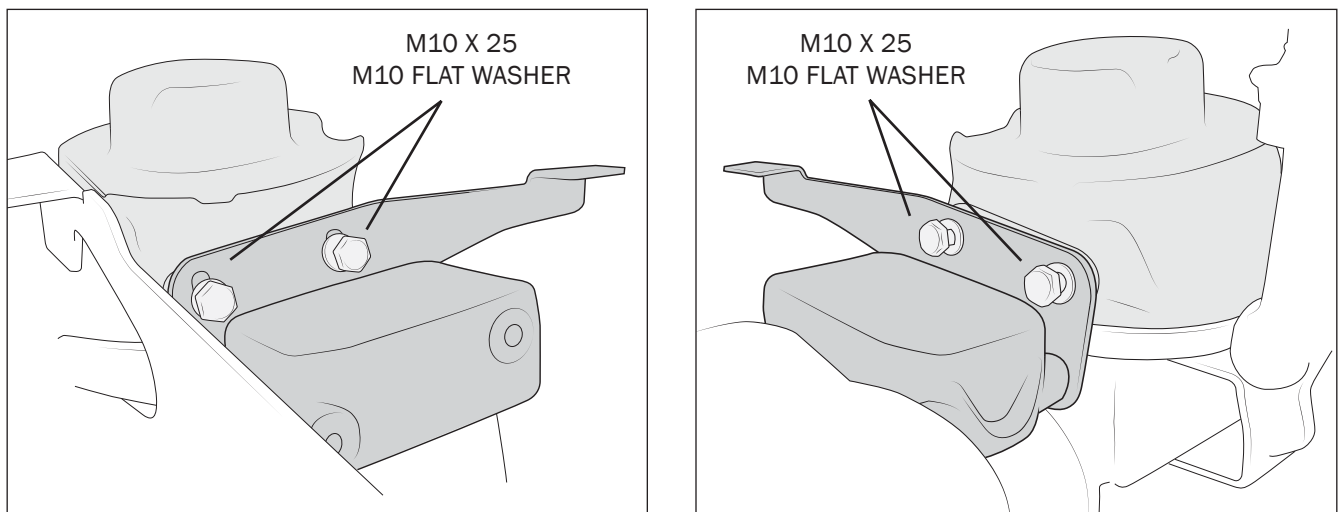

Figure 22
- b. Place the bump stop/bracket assemblies on the axle and start the bolts into the coil spring mounts. Secure with M10 X 25 bolts and M10 Washers but DO NOT tighten (fig. 22).